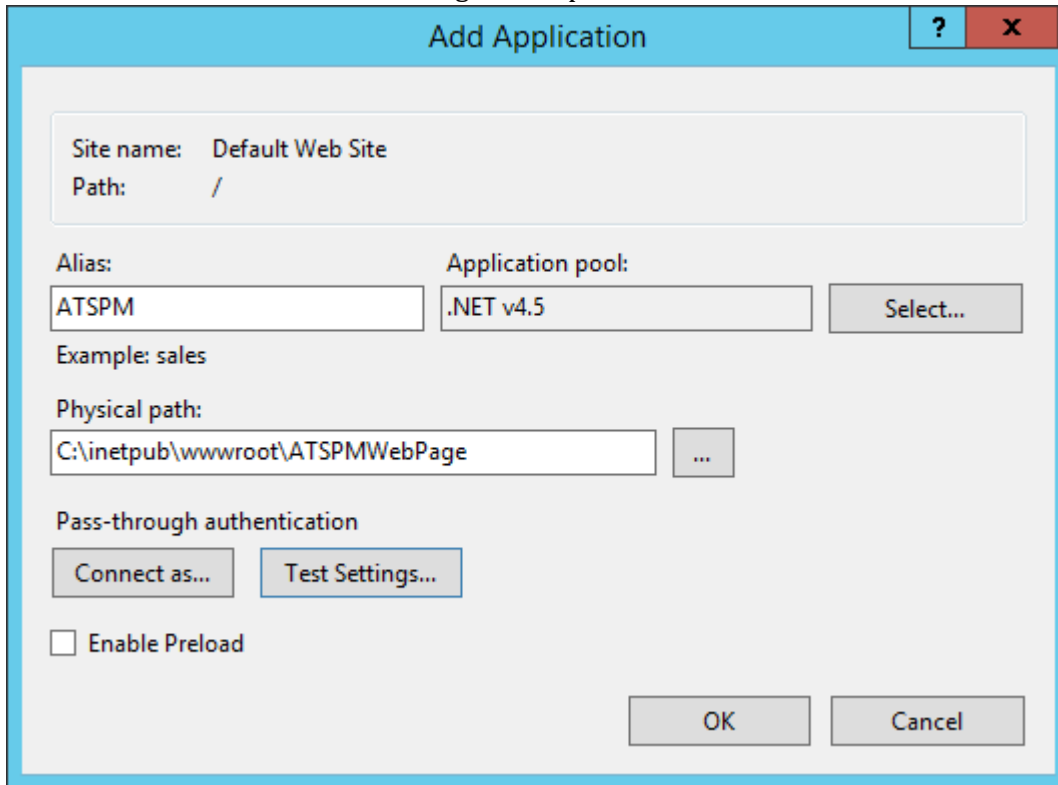

Figure 1: Configure ATSPM Application in IIS
3. Add ATSPM as a new application in IIS (Figure 1):